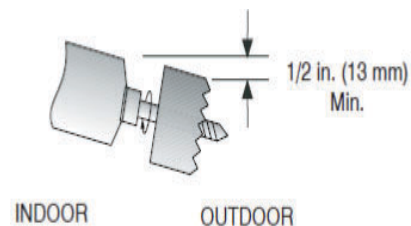

Fig. 19 — Drill holes
- b. Drill the pipe hole. The outside pipe hole is 1/2 in. (13 mm) lower than the inside pipe hole, therefore it slants slightly downward (see Fig. 19).